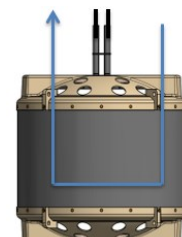

Fig. 10
- For a better ventilation, the pipe connection should point upwards (Fig. 10)